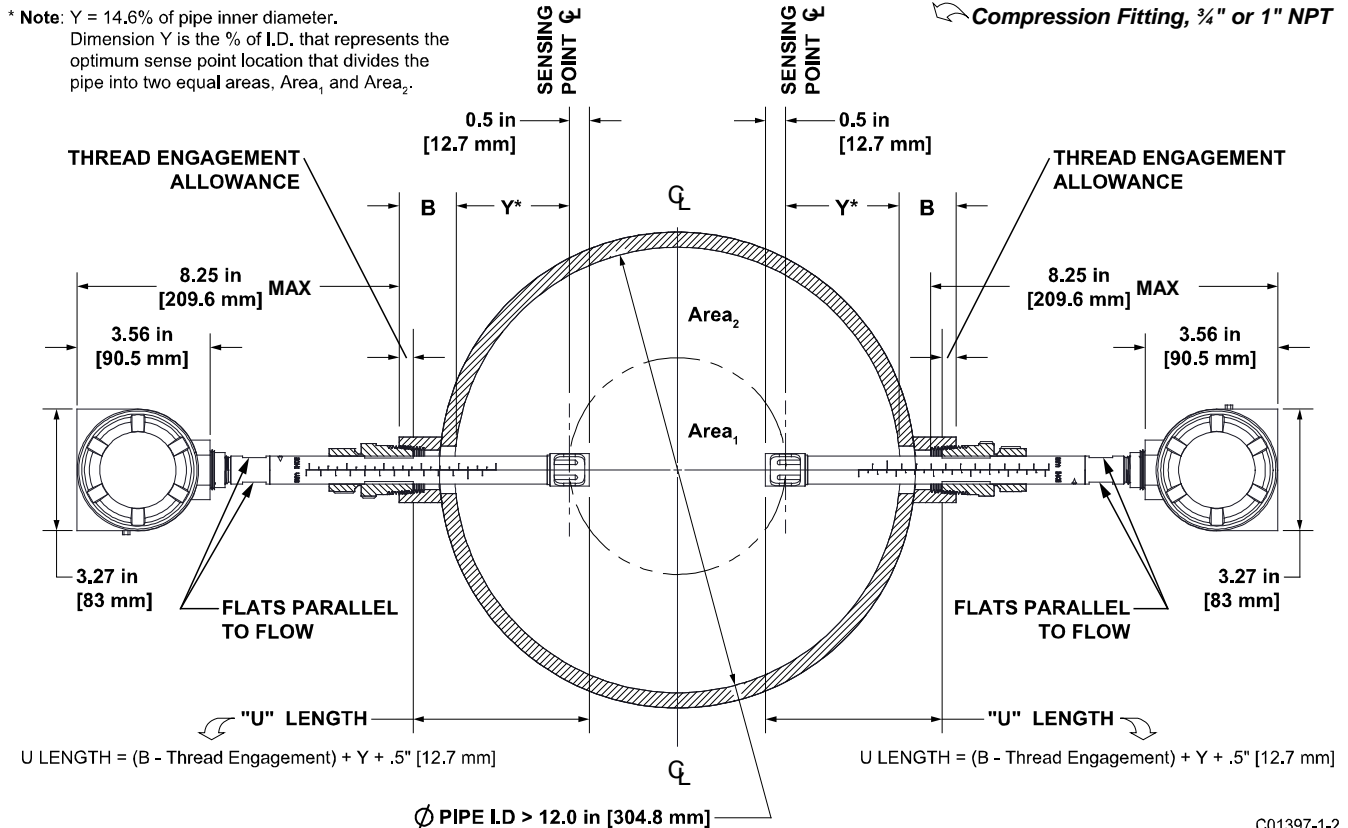

Figure 14 – Compression Fitting Mounting Dimensions
A compression fitting flow element sensor is used for multi-single point insertion applications. The adjustable length of the compression fitting allows for precise sensor placement inside the pipe. The flow element is properly mounted when the center of the sensor head divides the pipe into equal areas as shown in Figure 14 below. The scale etched on the side of the insertion pipe indicates the length to the tip of the flow element.
1. Ascertain the insertion depth of the flow element probes as shown in Figure 14 below.